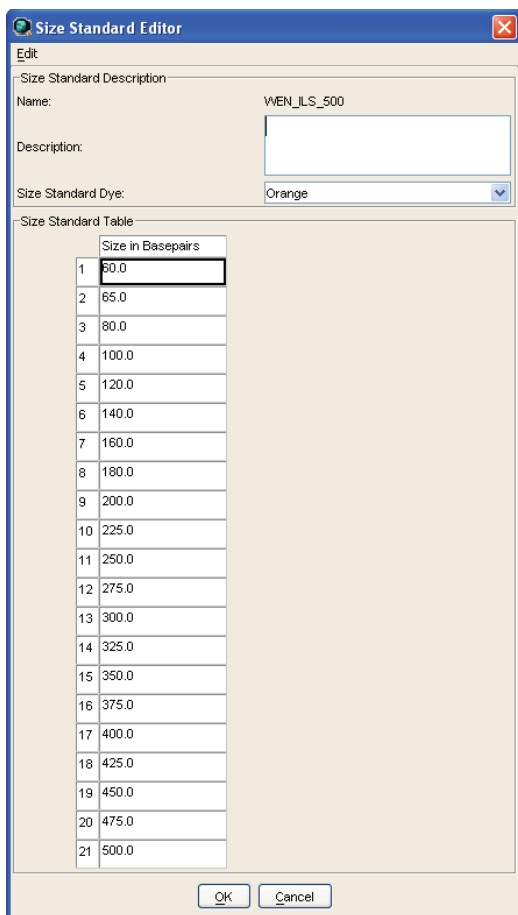

Figure 17. The GeneMapper® ID Size Standard Editor.
5. Enter a detailed name, such as “WEN_ILS_500”, in the Size Standard Editor (Figure 17).